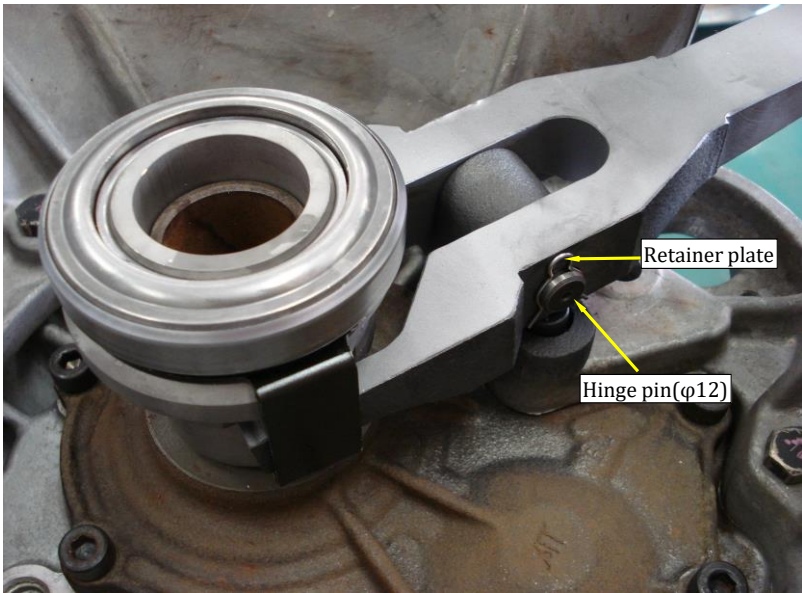

Fig. 2
9. Apply molybdenum grease to the hinge pins, and install the release fork to the fork supporter. At the same time, the flat part of the sleeve should face the fork and the mounting part of the release fork enters the flange of the bearing/sleeve assembly. (See Fig. 2)